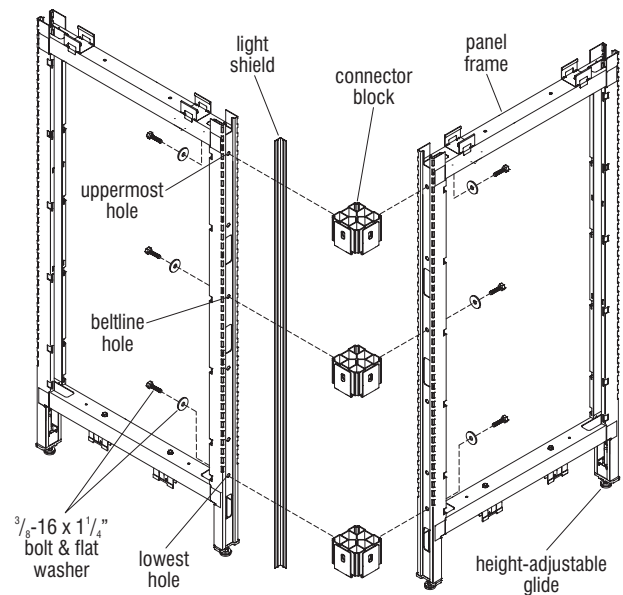

Figure 3 - Two-Panel Intersection
2. Loosely attach connector blocks to one vertical panel frame using one 3/8-16 x 1 1/4" hex head bolt and large flat washer per connector block (Figures 3, 4 & 5). Attach one connector block at the lowest mounting hole in the frame, one at the highest, and the third approximately 30" from the floor, near beltline height. If the panel frame is only 32" high, use only two connector blocks, one at the top and one at the bottom (See Detail C - "Panel Connector Block Charts," page 5).
3. Have one person hold the panel frame (with connector blocks). Then attach the next panel frame to the first panel frame using hex head bolts and flat washers. Hand-tighten hardware until all intersection connections are made (Figures 3, 4 & 5).
4. Tighten all hex bolts at intersections, then level the panel frames, twisting the height-adjustable glides in or out. (Figures 3, 4 & 5).